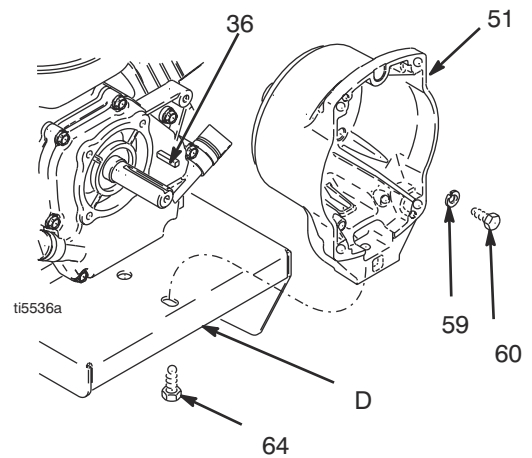

FIG. 10
2. FIG. 10. Remove four screws (60) and lock washers (59) which hold clutch housing (51) to engine.
3. Remove screw (64) from under mounting plate (D).
4. Pull off clutch housing (51).
1. FIG. 10. Push on clutch housing (51).
2. Install four capscrews (60) and lock washers (59) and secure clutch housing (51) to engine. Torque to 200 in-lb (22.6 N·m).
3. Install screw (64) from beneath mounting plate (D). Torque to 26 ft-lb (35.2 N·m).